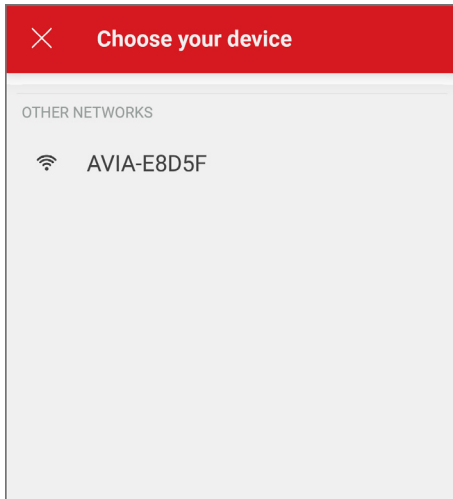

Figure 84. Choose Your Device
- Depending on your configuration, one or more devices will appear on the app. See **Figure 84**. Select the **HOTSPOT** identifier that matches the unit's display as shown in **Figure 84**.